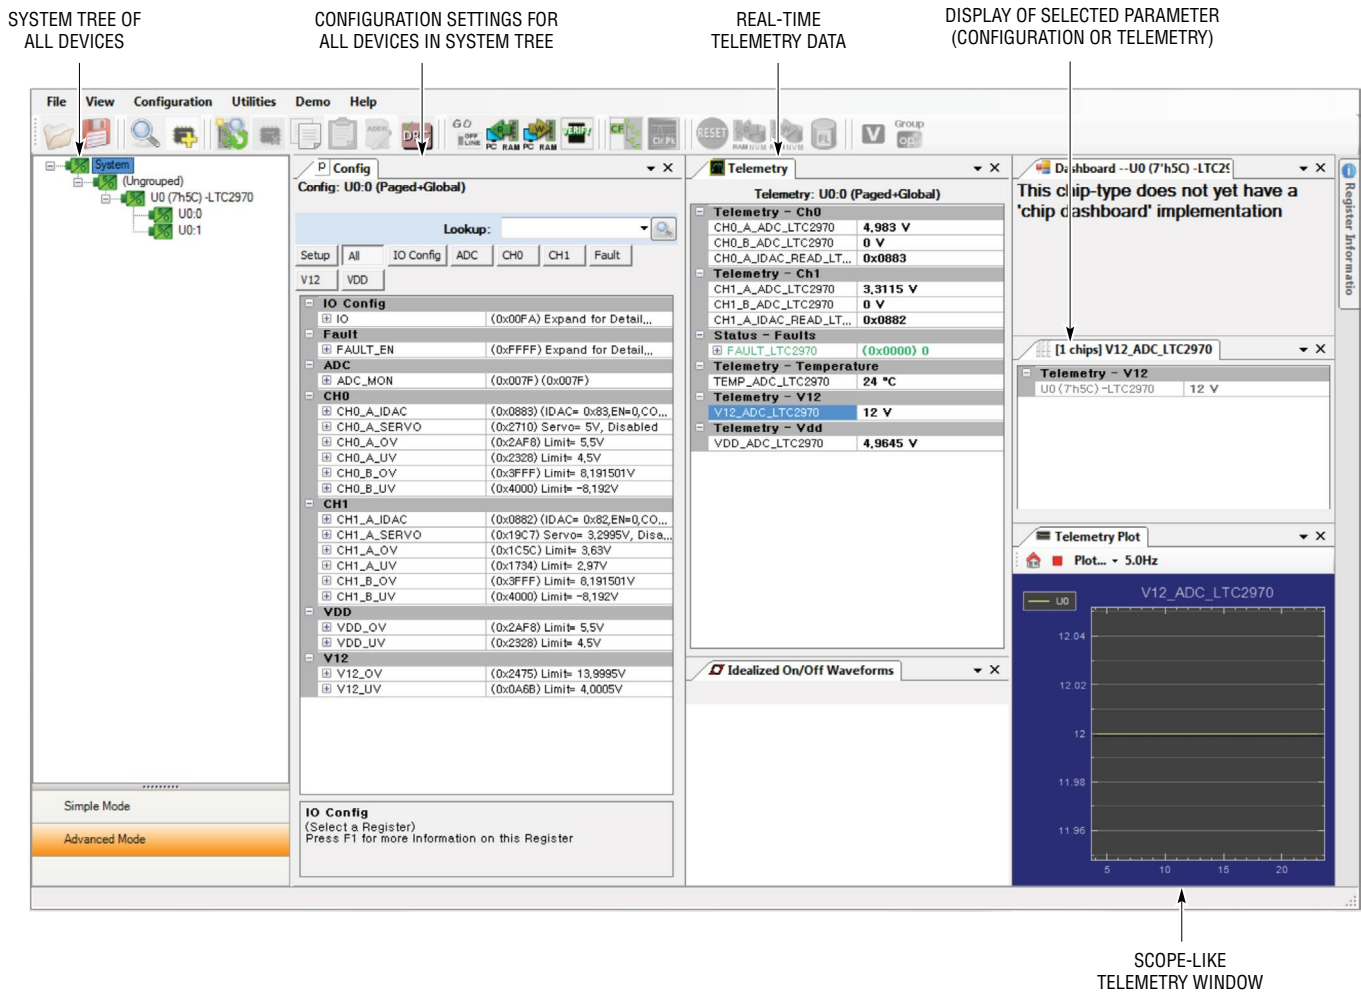

Figure 1. Screenshot of LTpowerPlay GUI
7. Connect the USB cable from the host computer to the DC590A. Launch LTpowerPlay. The software automatically identifies the DC980A and builds a system tree for the LTC2970. The GUI should appear as that shown in Figure 1.